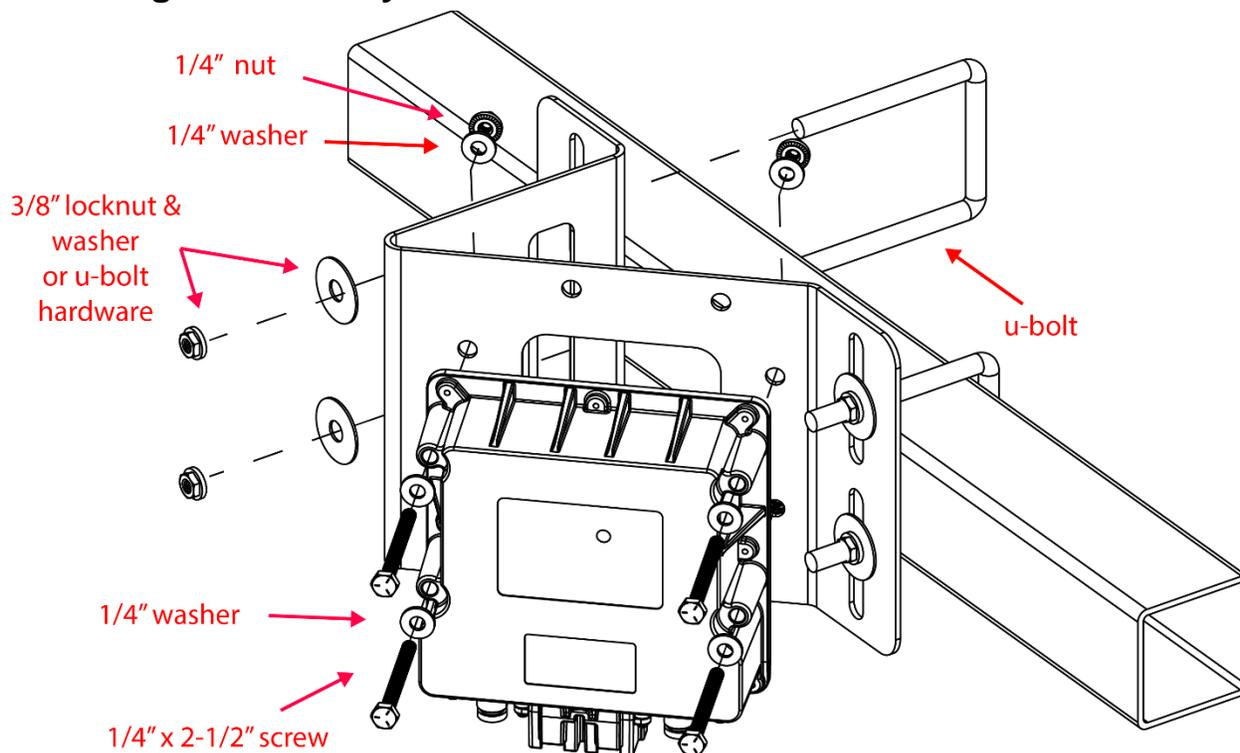

Figure 6: Installing the gateway
2. Secure the gateway to the mounting bracket using the provided screws (356060-000303), washers (352012-000002), and nuts (356060-000241) as shown in Figure 6.